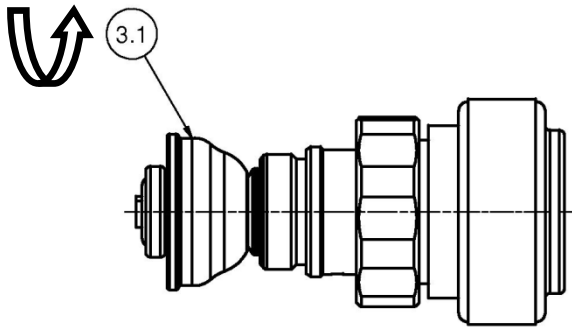

Figure 7 – Valve insert with inverted diaphragm (3.1)
- Screw out the valve cone (3) manually counter-clockwise (see figure 7).